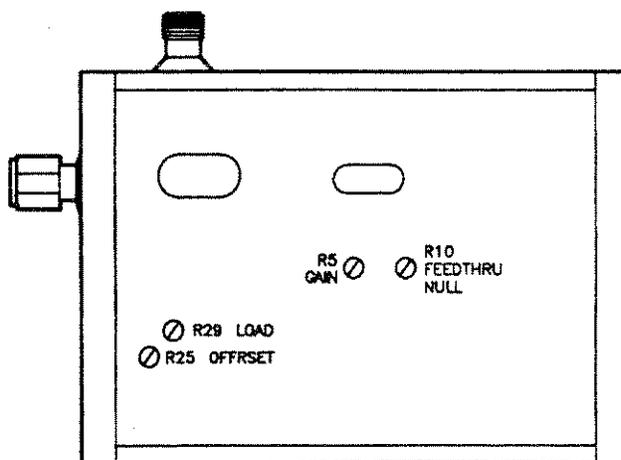

Figure 5-2. Locations of Adjustment Potentiometers
NOTE: To perform the following adjustments refer to Figure 5-2 for the locations of the adjustment potentiometers.
8. Adjust R5 (see Figure 5-2) for a cursor reading of -6 ± 0.1 dBm.
9. Set the attenuator to 0 dB and adjust R29 (Figure 5-2) for a cursor reading of **calibrated** -30 dB, minus 6, ± 0.1 dBm (nominally -36 dBm).